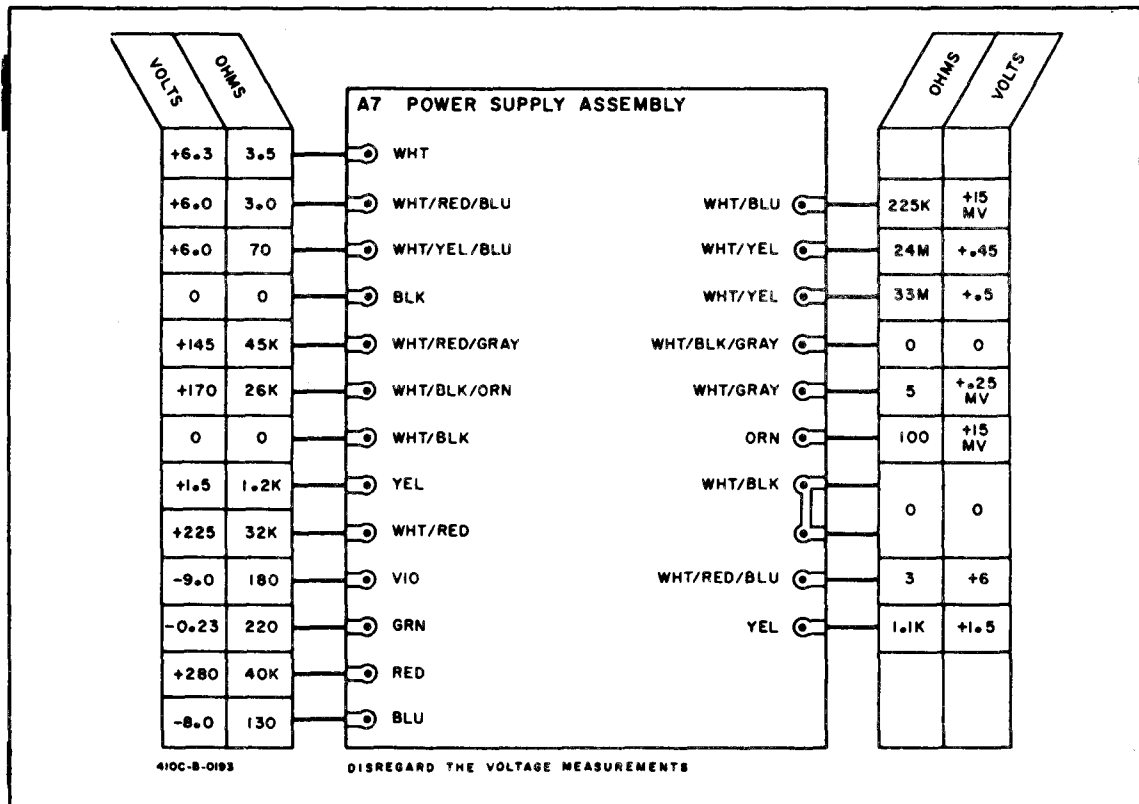

Figure 5-7. Power Supply Measurements
- ① Check power supply voltage values using the procedure outlined in Paragraph 5-29. If voltages are correct, proceed to ③. If voltages are incorrect, proceed to ②.
- ② If malfunction appears in the power supply, and adjustment of the chopper frequency to 100 cps does not reduce the error, refer to Figure 5-7 for further investigation. Check voltage and resistance values listed. When deviation is noted, trace circuit investigating for faulty component.
- ③ Measure the dc voltage at the DC AMPLIFIER OUTPUT on Model 410C rear panel. Under overdriven conditions specified, output should be approximately +4.0 v. If this measurement is correct, proceed to ④; if not, proceed to ⑤.